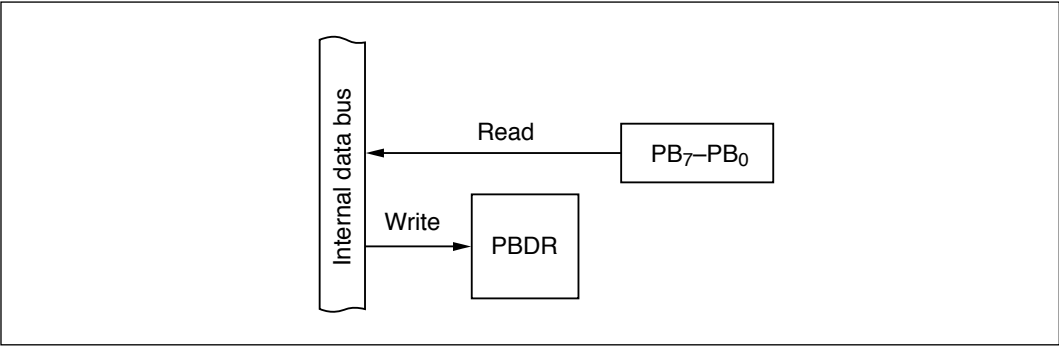

Figure 9-73 Input Port (Modes 2 and 4)
(1) Input Port (all pins: Modes 2 and 4): Figure 9-73 shows a block diagram illustrating the general-purpose input function. Table 9-53 indicates register read/write data. Values written in the port B data register (PBDR) have no effect on general-purpose input lines. When read, PBDR returns the value at the pin.